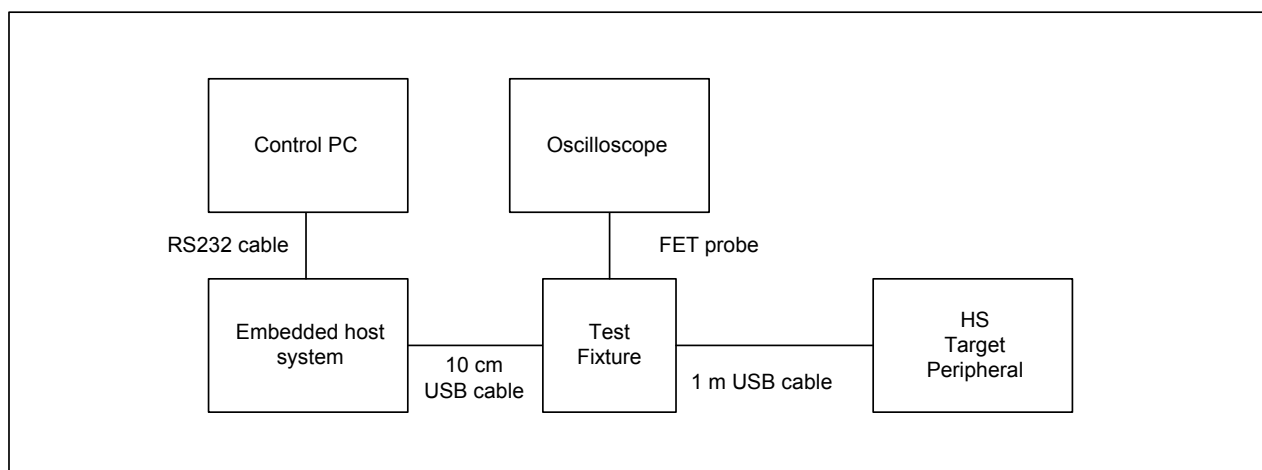

Figure 5-6 Host Suspend/Resume testing configuration
Measured if the system supports HS devices and USB Suspend. Measures USB Suspend and USB Resume timing. Figure 5-6 shows the testing configuration.
1. Connect as shown in Figure 5-6.